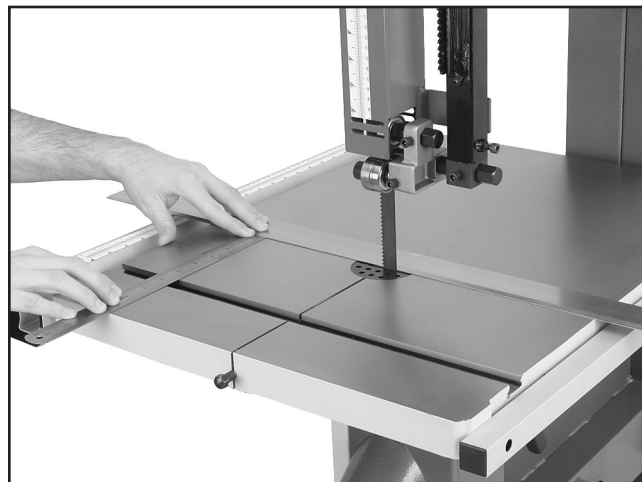

Figure 30. Measuring for miter slot to be parallel with blade.
5. Use a fine ruler to gauge the distance between the straightedge and the miter slot. The distance you measure should be the same at both the front and the back of the table (see **Figure 30**).